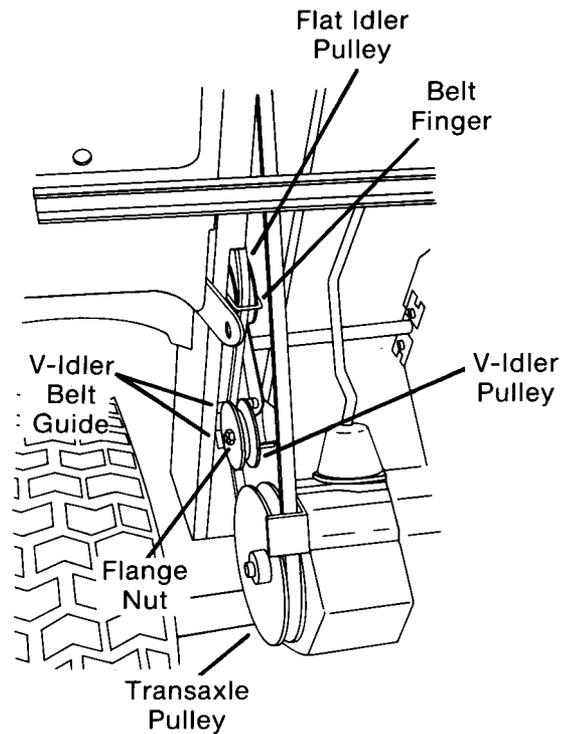

FIG. 53
- B. Remove flange nut holding V-idler pulley on the moveable idler arm. (Fig. 53)
- D. Slide V-idler pulley to the right until belt is clear of V-idler belt guide. (Fig. 53)
- E. Carefully remove flat idler pulley and belt finger, keeping all parts and mounting hardware in order. (Fig. 53)
- G. Reassemble flange nut to secure V-idler pulley. Be sure bent bottom edge of V-idler belt guide fits under bottom edge of moveable idler arm, and belt is inside belt guide, before tightening nut. (Fig. 53)
- C. Remove flange nut holding V-idler pulley clutch/brake arm. (Fig. 53)